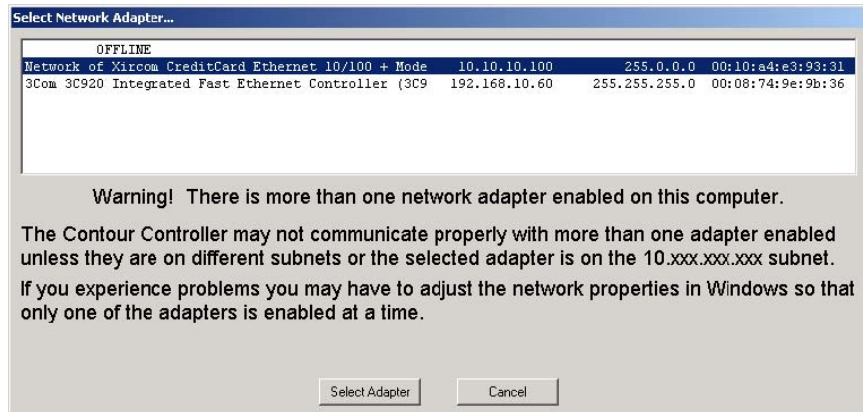

Figure 2-11
1. Double-tap the **Lake Controller** shortcut icon from the Windows desktop. The **Select Network Adapter** dialog (Figure 2-11) appears if your computer has more than one network interface enabled. This typically occurs if your PC has both wired and wireless network interfaces.